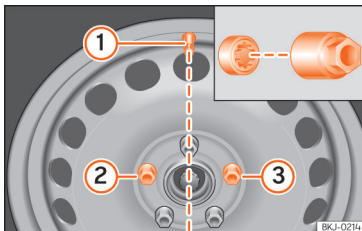

Fig. 37 Wheel change: tyre valve ① and the correct position for the anti-theft wheel locking bolt ② or ③.
In wheels with full hubcaps, the anti-theft locking bolt must be threaded onto positions »» Fig. 37 ② or ③, taking the tyre valve's position as reference ①. Otherwise it will not be possible to mount the hubcap.